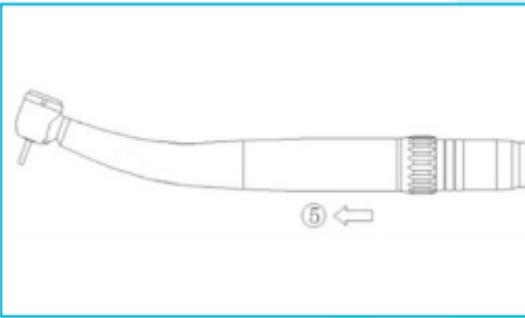

Fig. 6-3
Hold the LED coupling tightly; pull the medical device off while twisting slightly (Fig.6-3⑤).